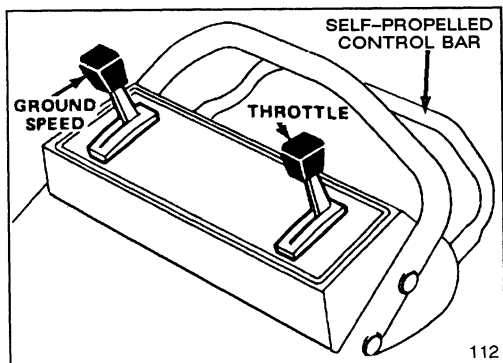

Figure 6
1. CONTROLS—Throttle, ground speed control, and blade/self-propelled control bar are on upper handle (Fig. 6). Recoil starter is on top of engine.
2. Push spark plug wire onto spark plug and move ground speed control to "N" (Fig. 6).
4. **GROUND SPEED** (Fig. 6)—Move ground speed control to desired setting. Number "1" is slow, "2" is medium, and "3" is a fast walking pace. Move ground speed control to "N" when using the mower for trimming and whenever leaving mower.
6. **STOPPING** (Fig. 6)—Release control bar to stop blade and traction drive. Move ground speed control to "N". To stop engine, move throttle to OFF. Pull wire off spark plug if mower is unattended or not used.
3. Move throttle control to FAST (Fig. 6).